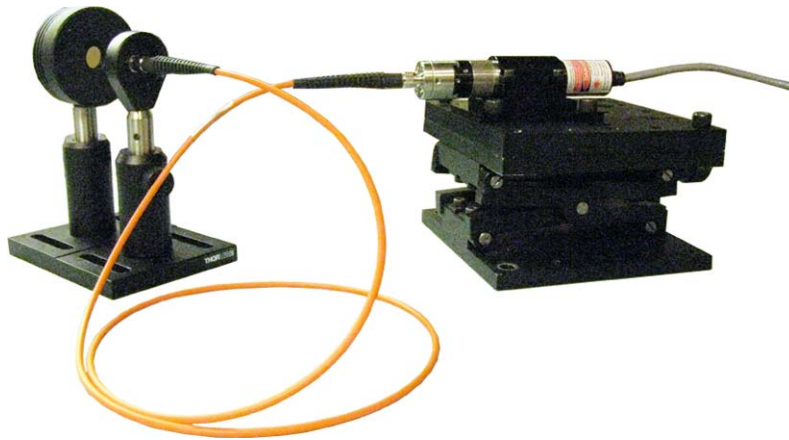

Figure 2-39. Place Photo-Diode Sensor
9. Place the photo-diode sensor in front of the exit end of the fiber cable, as shown in Figure 2-39.